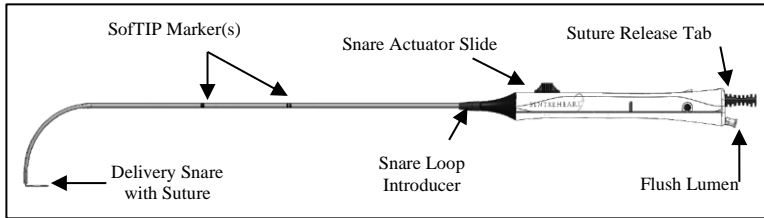

Figure 1 LARIAT RS Suture Delivery Device
The LARIAT RS Suture Delivery Device (Figure 1) is a one-piece, single-use suture delivery and deployment device with a pre-tied size 0 polyester suture loop that is pre-loaded on the device. A lumen within the LARIAT RS is designed for aspiration, flushing during the delivery, capture, or release of the LARIAT RS Suture. The SofTIP™ Guide Cannula and dilator, which may be used for straightening, guidance and placement of the LARIAT RS, are packaged separately.
- Locate the red Suture Release Tab at the back end of the LARIAT RS as shown in Figure 1.